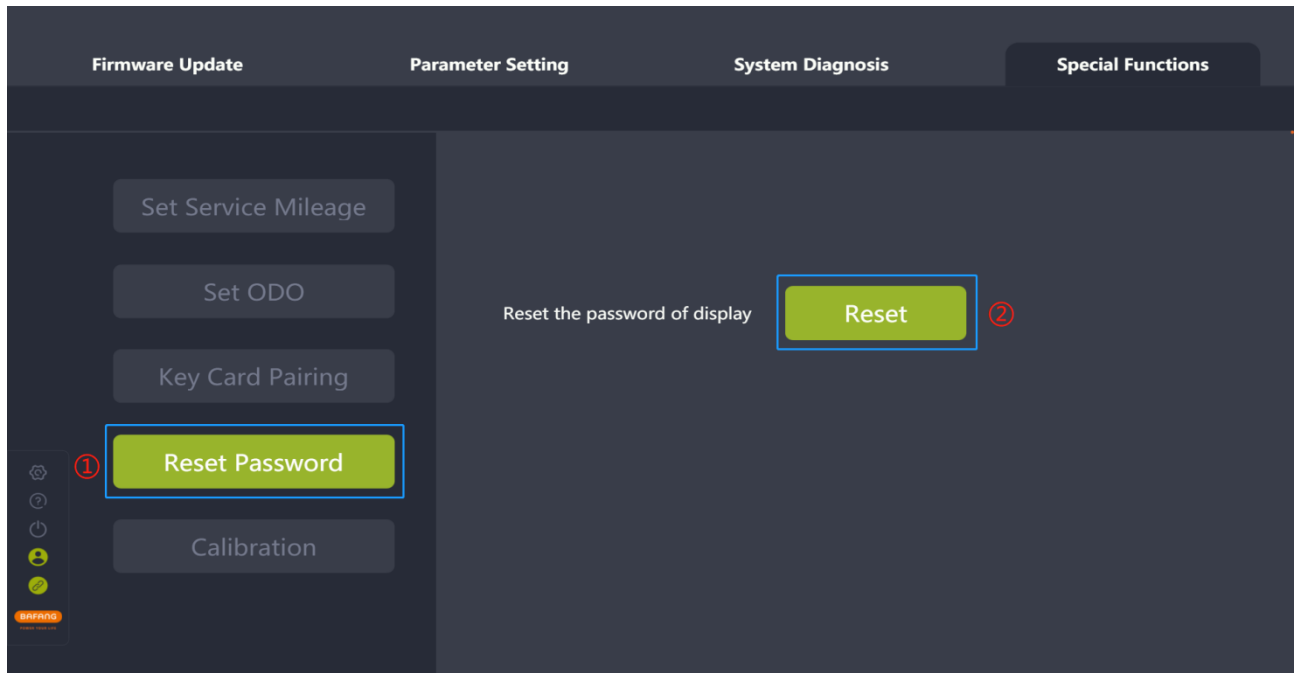

Fig. 7-5 Reset password
- (1) Connect the BESST Box to the display (make sure the display supports this function in advance) and select the "Reset Password" icon;
- (2) Click the "Reset" icon (e.g. Fig. 7-5) to restore the factory password. For details, see the product specification of the corresponding display.